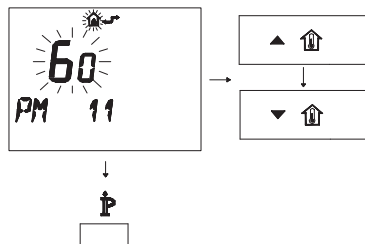

Figure 5.41
- To modify the programmed SET, press ▲ ⏏ or ▼ ⏏ and wait for the programmed number to start to flash (Figure 5.41). Each step increase or decreased corresponds to 1 second.